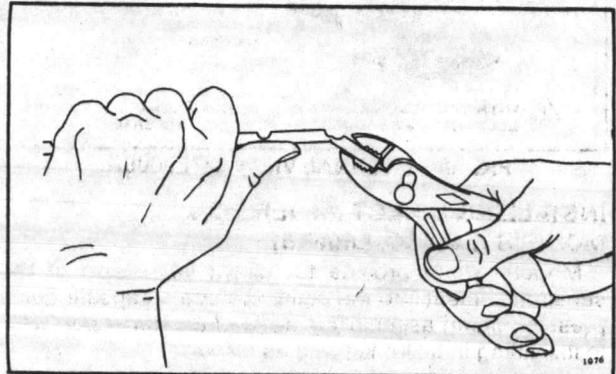

FIG. 12—REMOVING EXCESS BULB SUPPORT.
3. Break holder to desired length (Fig. 12).